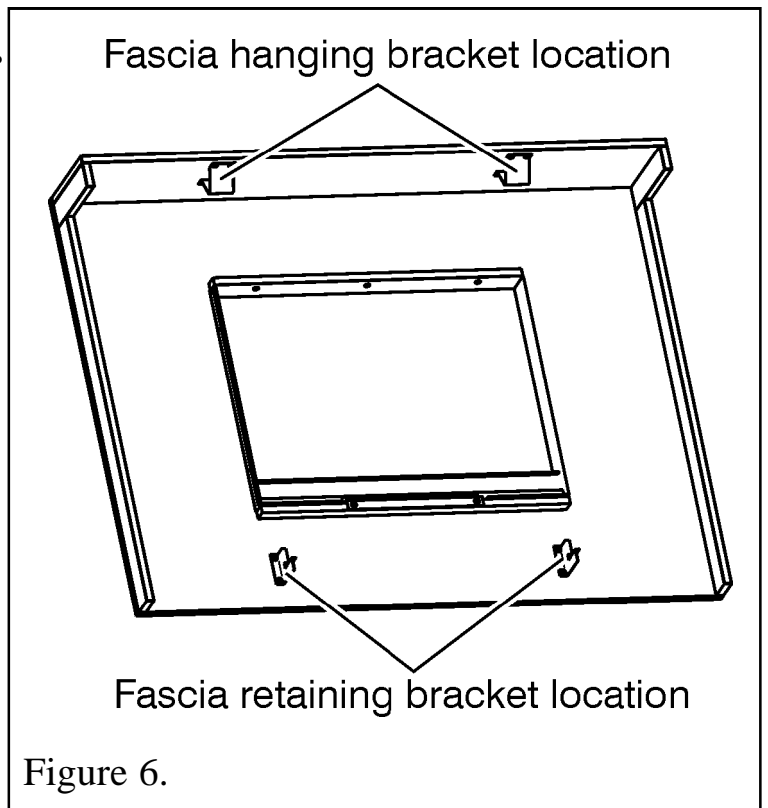

Figure 6.
1. On the underside of the fascia top are two sets of pilot holes. Align the holes in the fascia hanging brackets with the pilot holes and secure using the screws supplied (See figure 6).
2. On the lower rear of the fascia are two sets of pilot holes. Align the holes in the fascia retaining brackets with the pilot holes and secure using the screws supplied (See figure 6).